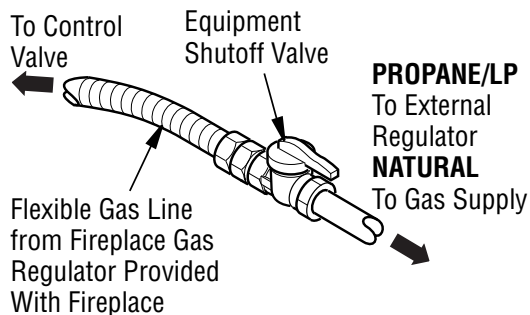

Figure 24 - Attaching Flexible Gas Line to Equipment Shutoff Valve
3. Apply pipe joint sealant lightly to male threads of gas connector attached to flexible gas line/equipment shutoff valve (see **Figure 24**).